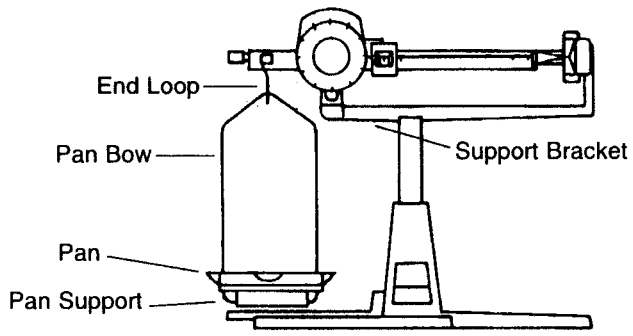

Figure 6.
- 8. Place the pan on the pan support and insert the pan bow in the upper notch of the end loop as shown in Figure 6.